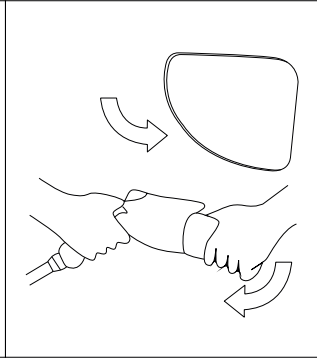

Figure 5
2. Close the car socket cover and put the protective cap on the charging connector (fig. 5).